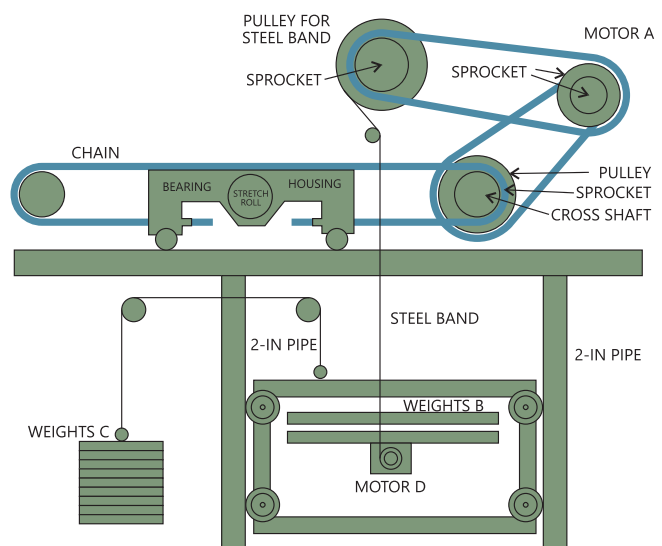

Figure 3.
A more complex weight system is the weight/counterweight system (Figure 3). In this system, gross adjustments to the stretch roll position are made with a motor (A), and tension is applied by weights (B). Fine adjustments to the amount of tension can be made by adding or deleting counterweights (C). The length of the steel band leading from the weights to the pulley can be adjusted by a second motor (D). Adjustment in the steel band length keeps the weight carriage in the proper position.